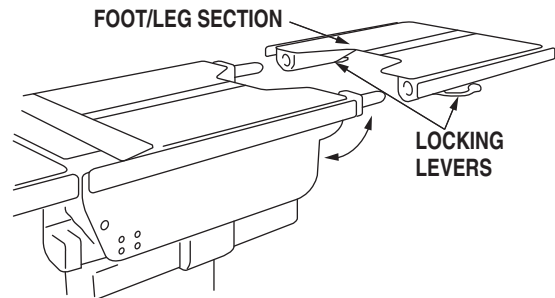

Figure 2-24. Leg Section Release Levers
a. To remove the leg section, position the table top height to elbow height, and simultaneously depress both release levers and pull the leg section out. See figure 2-24. Press the LEG-DOWN button on the pendant control to position the leg section attachment pins down and out of the way.